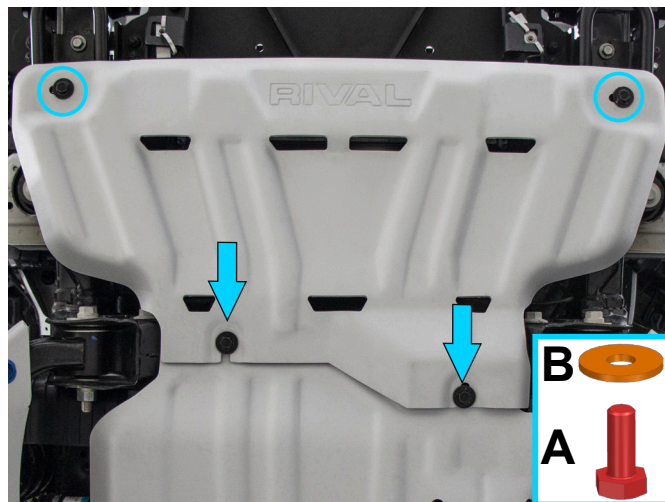

Fig. 2
2. Put radiator skid plate (item 1) on installed bolts M10x30 and washers 10 from step 1. Fix the front part of skid plate, using bolts M10x30 (item A) and washers 10 (item B), as shown in fig.2.